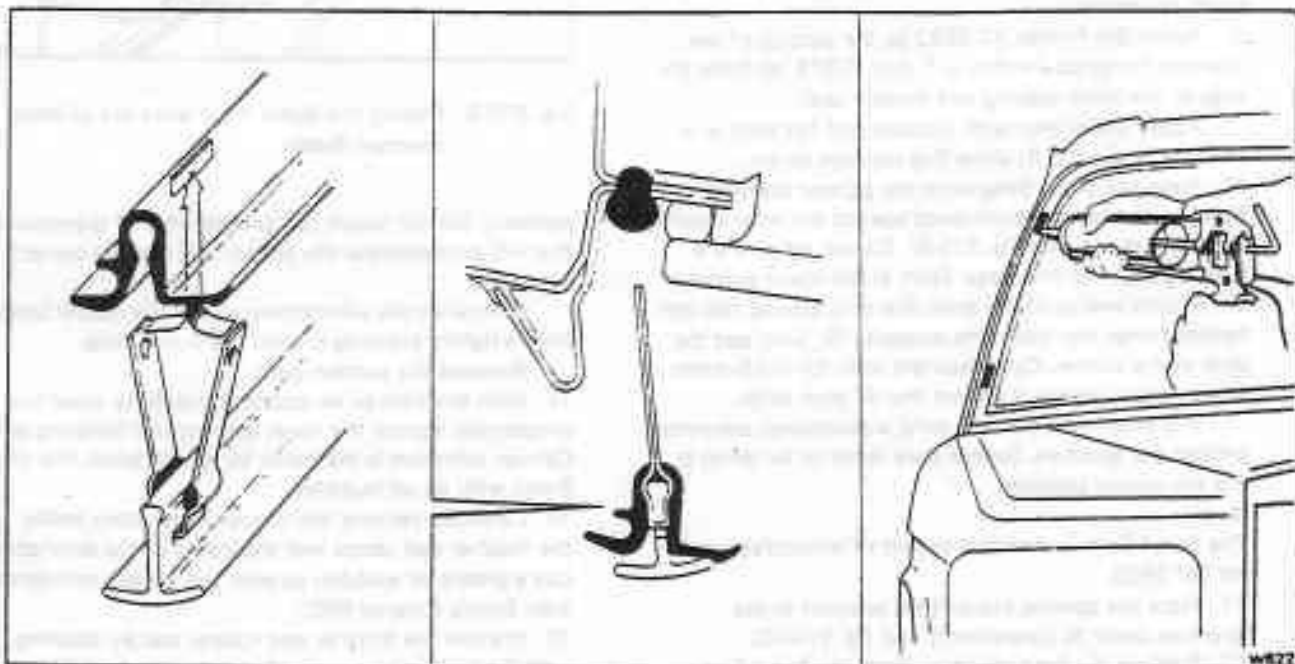

Fig. S10-11 Windscreen retention
Autograde Sealant or Seelastik inside the legs of the retention plates (see fig. S10-11).
18. If fitting a new seal, carefully slit the seal in four places to accept the retention plates (see fig. S10-11). Close the legs of the retention plates, thread the plates through the seal and fit the seal around the finisher.
19. Apply four 6,40 mm (0.250 in) beads of Arbomast Autograde Sealant or Seelastik 76 mm (3 in) long across the retention slots in the aperture (see fig. S10-11).
21. With the help of an assistant, lift the finisher/seal assembly into position. Thread the retention plates carefully through the sealant and slots in the aperture flanges (see fig. S10-11).